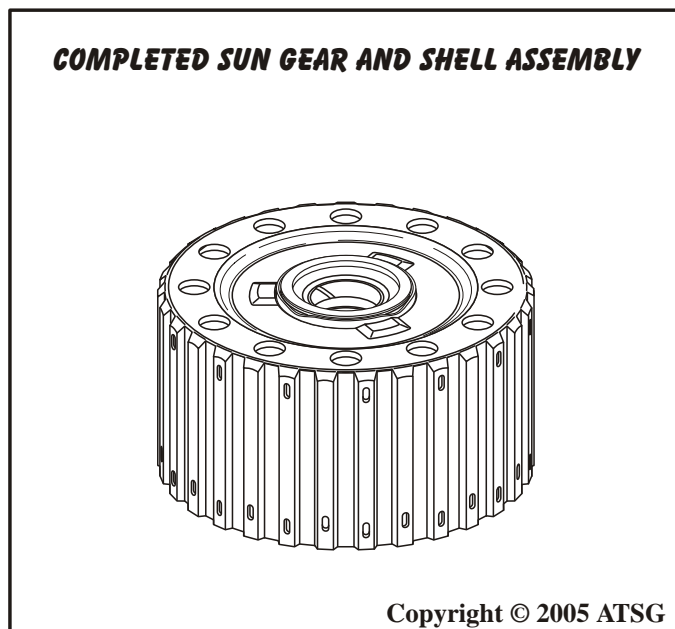

Figure 104
2. Set the completed sun gear and shell assembly aside for the final assembly process, as shown in Figure 104.